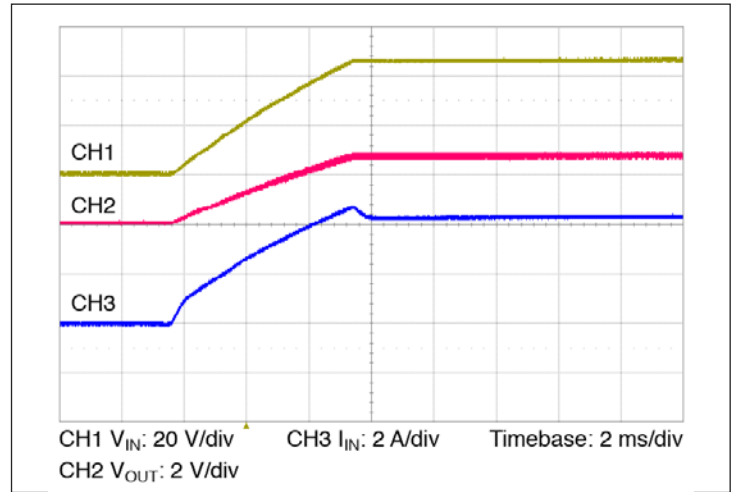

Figure 10 – Start up from application of V_{IN}; VC pre-applied C_{OUT} = 16000 μF
- Normal operation (VC applied prior to V_{IN}): In this case the controller is active prior to ramping the input. When the input voltage is applied, the VTM output voltage will track the input (See Figure 10). The inrush current is determined by the input voltage rate of rise and output capacitance. If the VC voltage is removed prior to the input reaching 26 V, the VTM may shut down.